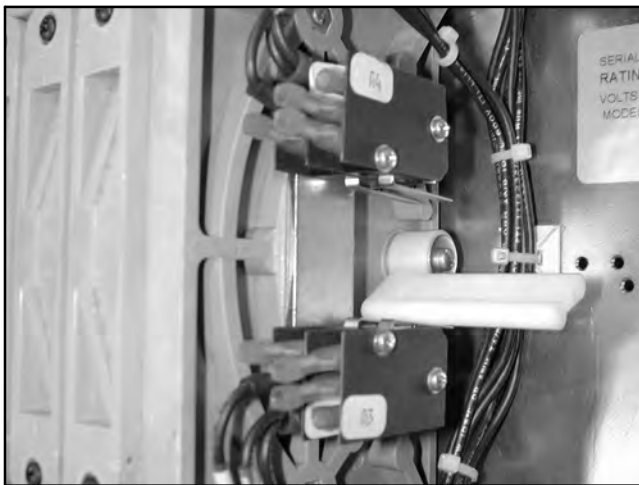

Figure 6-1 Microswitches
5. Note the location of the fast-on connectors to the microswitch terminals. See Figure 6-1.
12. Connect the fast-on connections to the microswitch terminals. See Figure 6-1.